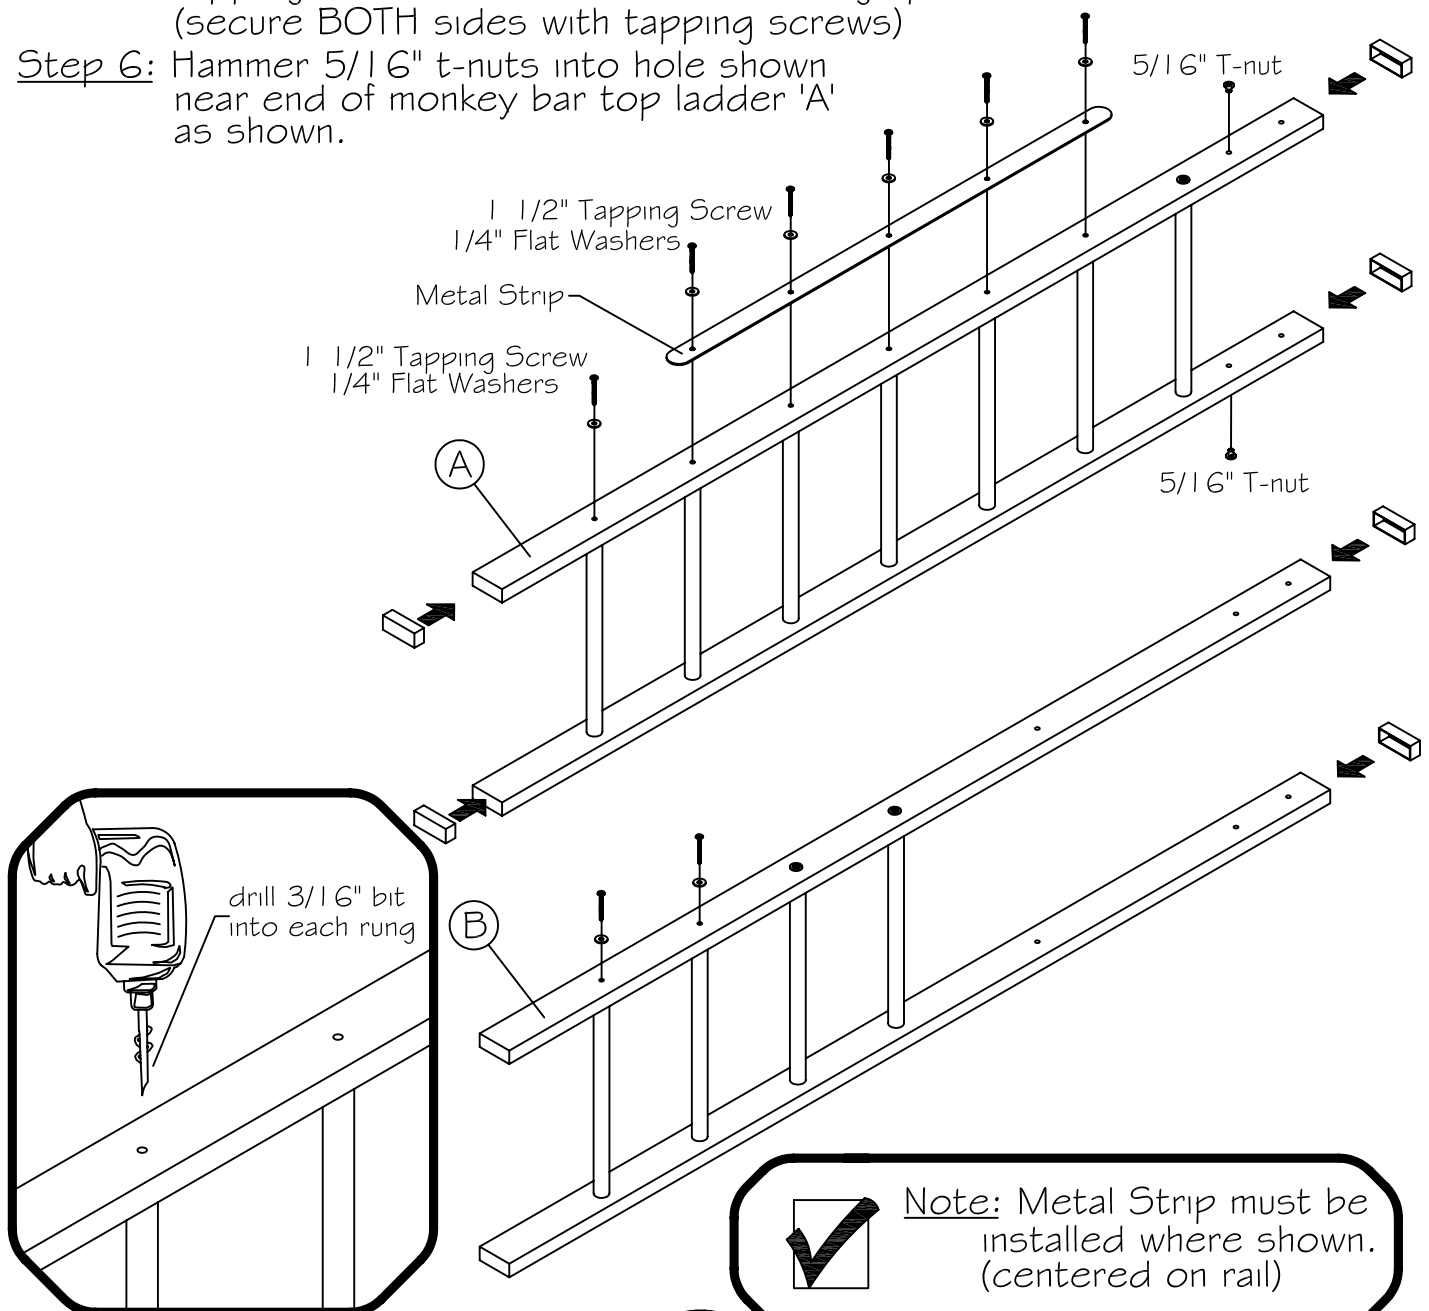

Fig. 12
- Step 1: Gather (1) Top Ladder Assembly 'A', (1) End Ladder Assembly 'B', Metal Strip & Plastic 2x4 Caps.
- Step 3: Using a drill with a 3/16" bit, pre-drill a hole approximately 1 1/2" deep into each wooden rung on each ladder assembly. This will aid step 3 & 4. (See Fig. 12)